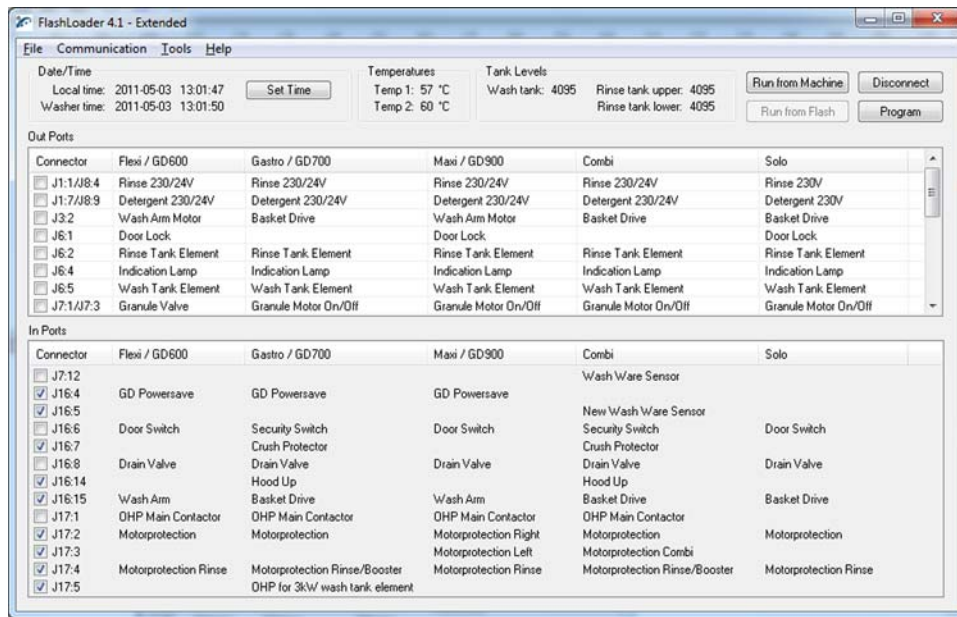

Figure 18: Running the machine with Flash Loader.
- Update date and time in the PC settings by pressing "Set Time". (Figure 18 Running the machine with Flash Loader, on page 33)